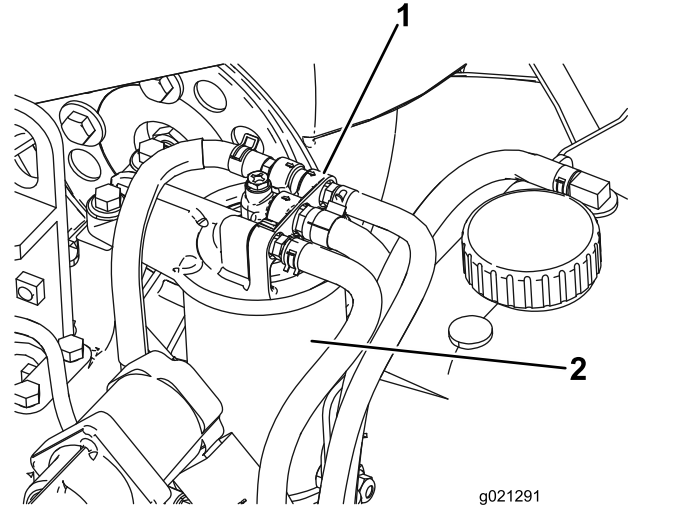

Figure 80
- Clean the area around the fuel filter head (Figure 80).
- Remove the filter and clean the filter head mounting surface (Figure 80).